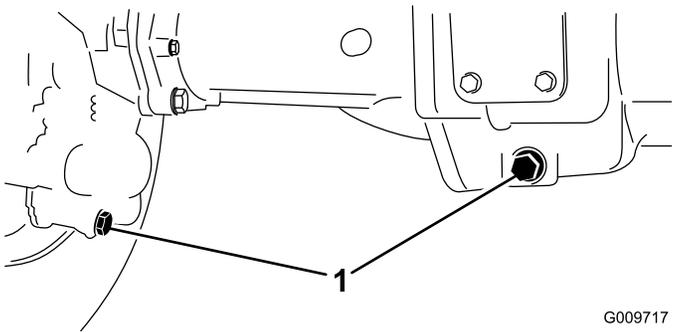

Figure 86
2. Clean the area around the 3 drain plugs—1 on each end and 1 in the center (Figure 86).